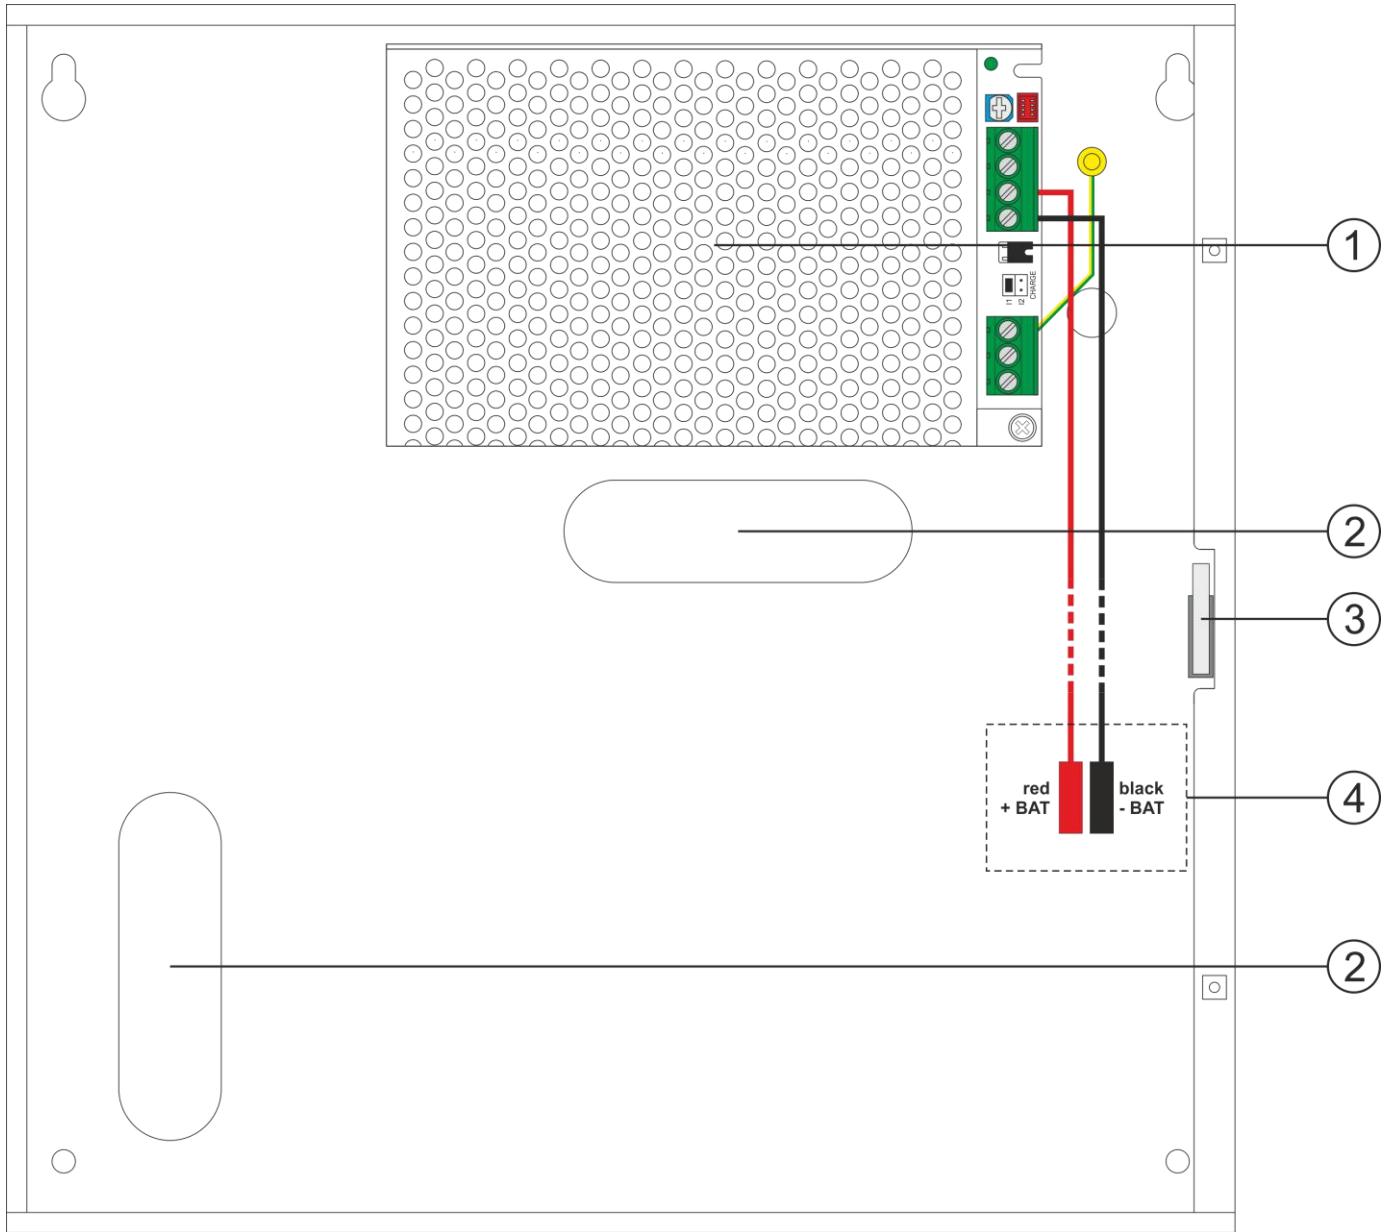

Fig.3. View of PSU.
Table 2. View of PSU (see Fig. 3).
6. Mount the battery in the battery compartment of the enclosure (Fig. 3). Connect the batteries with the PSU paying special attention to the correct polarity and type of connections (Fig.4):